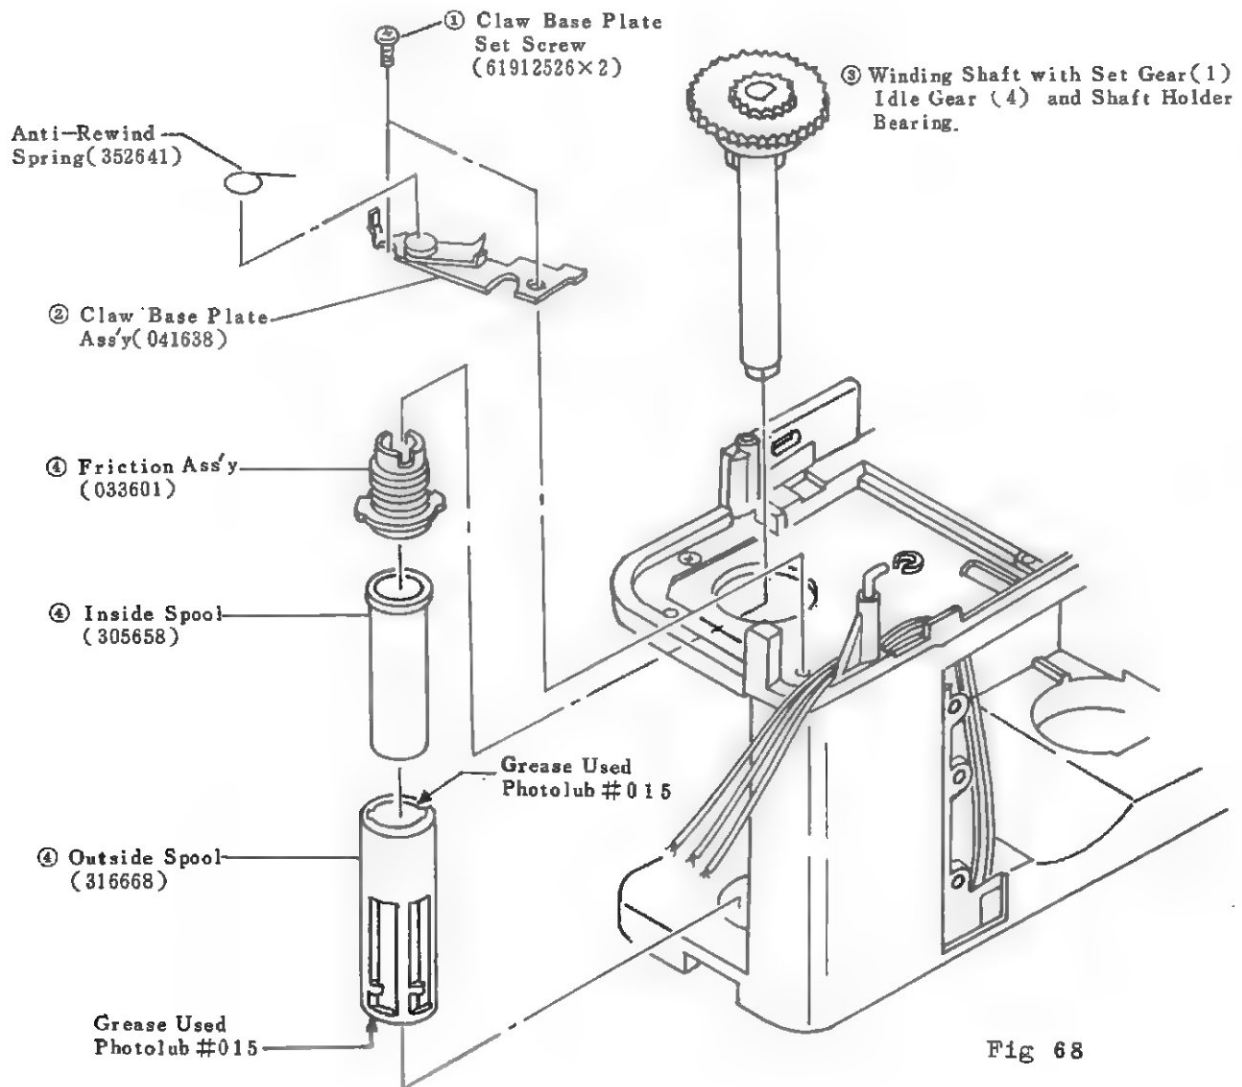

Fig 68
b) Remove the respective parts ① ~ ④ Shown in (Fig 68) in numerical order.